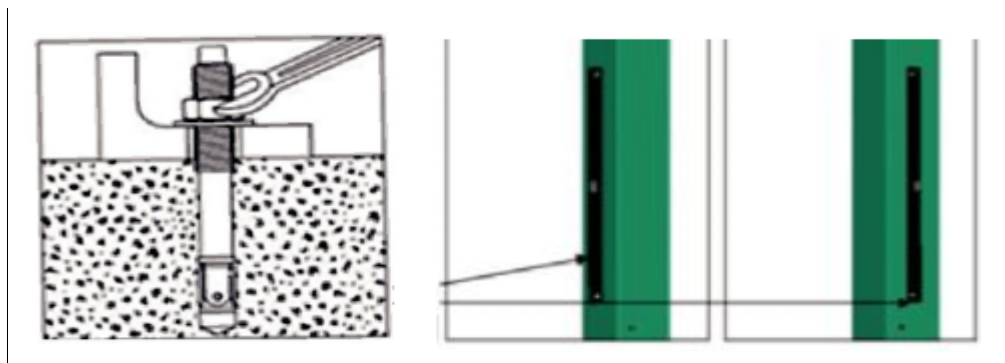

Figure7
7.5 Tighten the expansion bolts, and confirm the verticality of the columns with a level at the same time. If necessary, insert gaskets at the bottom of the columns for level adjustment (see Figure 7).